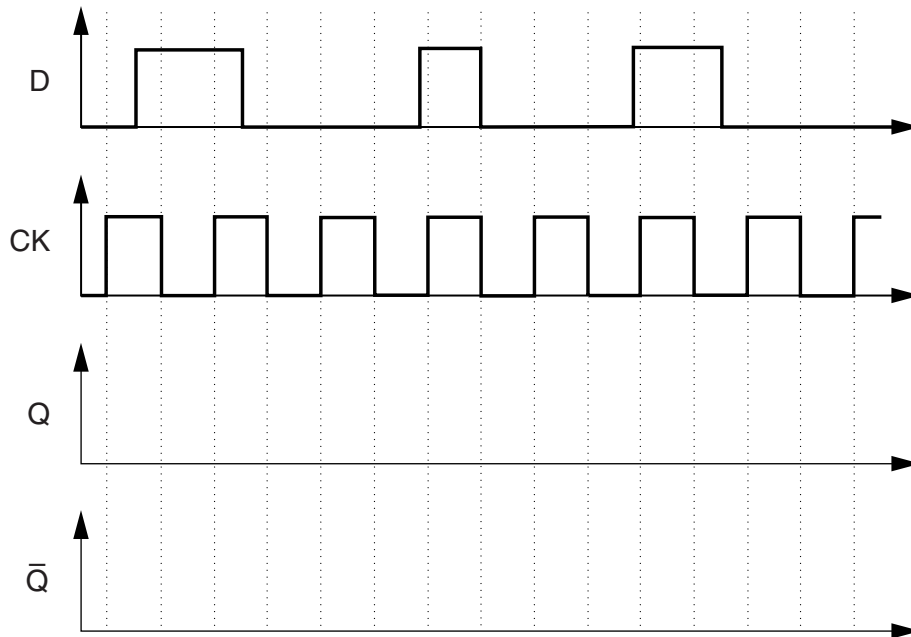

Fig. 4
- (c) For a different situation, complete the timing diagrams for a positive edge-triggered D type bistable shown in Fig. 4.